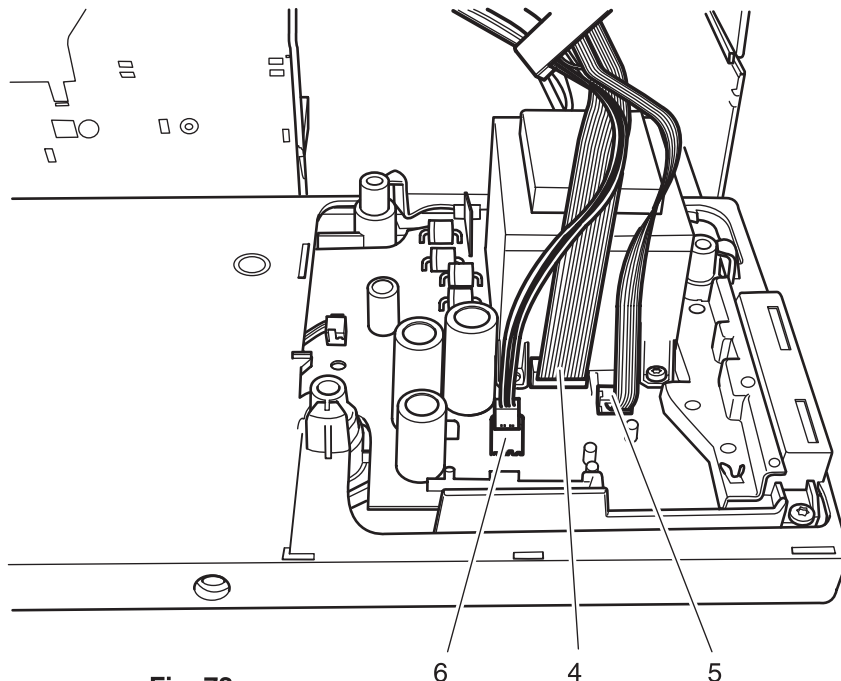

Fig. 72
- Remove the connection plug of 12-wire flat cable 4, remove 6-wire flat cable 5 and motor cable 6 from the circuit board (fig. 72).